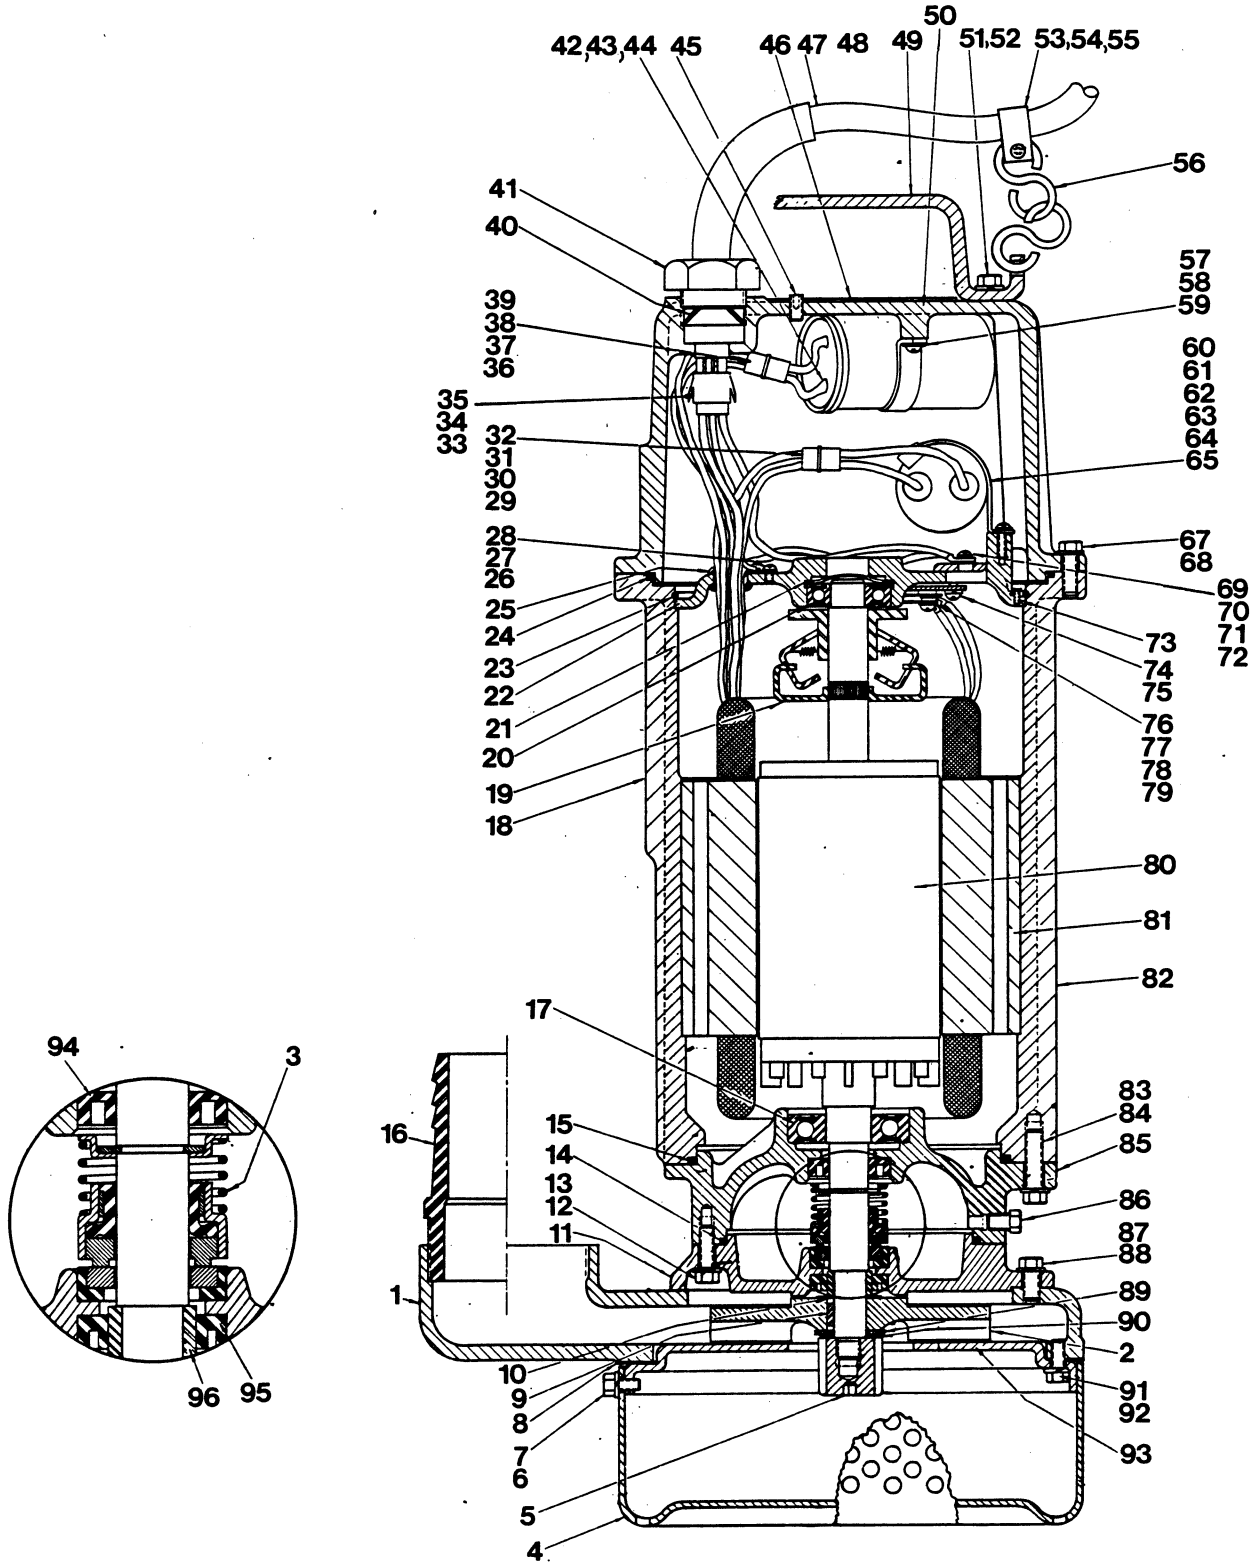

Figure 1. Pump Model S2D3-115V 1P
- a. See Figure 1 in Section E, and disconnect the pin housing and socket housing (31 and 32) to disconnect the leads to the capacitor, and disconnect the pin and socket housings (38 and 39) to disconnect the leads to the run capacitor.